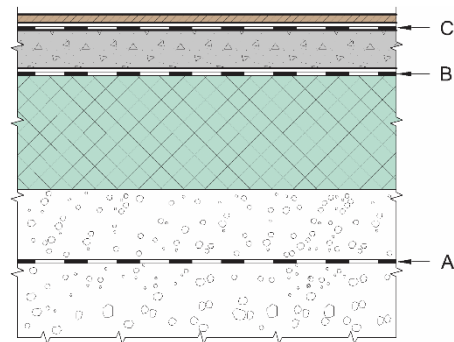

Fig. 1
- BACA RAD(ON) SKJØTETAPE for jointing of membrane and for sealing of corners in combination with toptape.
- BACA RAD(ON) TOPPTAPE for sealing of corners in combination with skjøtetape and for sealing around pipe penetrations.
- RAD(ON) 4 Tettmasse for sealing clusters of pipe penetrations
BACA RAD(ON) SEVEN can be used as protection against radon in application areas B and C as shown in SINTEF Building Research Design guide 520.706, provided that the conditions described in chapter 6 in this document are followed. Principal positioning of radon membranes are shown in Fig. 1.